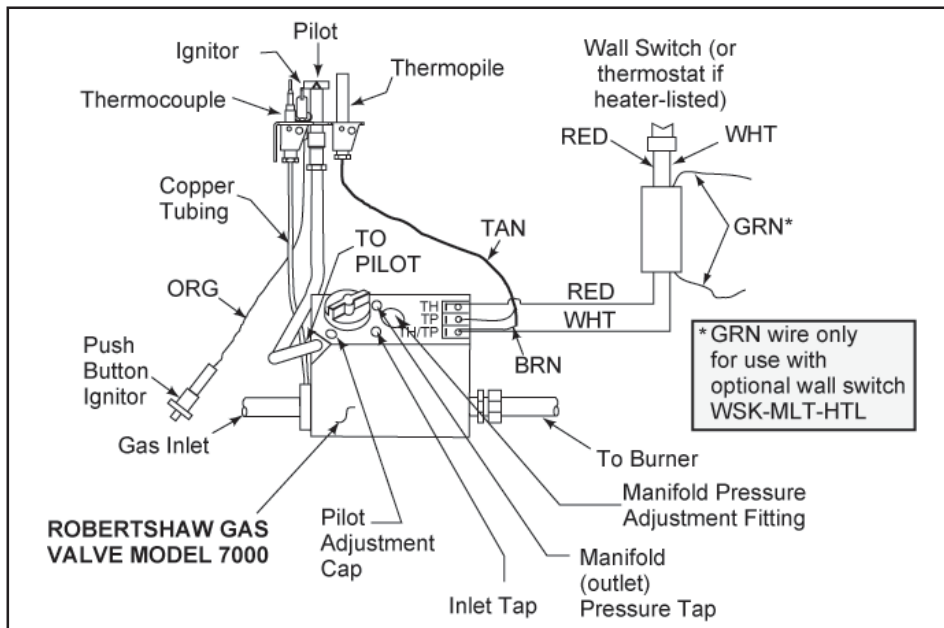

Figure 50 - Standing Pilot Ignition Wiring Diagram
- 2) This appliance may be connected to a thermostat (not supplied). Use a thermostat that is compatible with a millivolt gas valve. See Figure 50 for a wiring diagram.